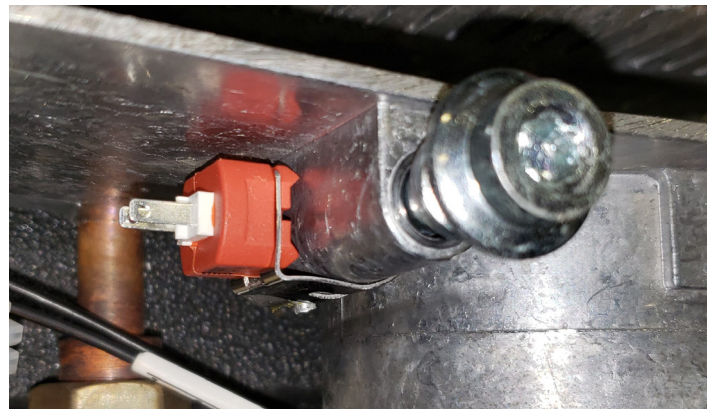

Fig. 7: New style sensor installation
4. Snap the new sensor in place as shown in Fig. 7. Lightly tug the sensor to ensure it is secure.
3. Snap the new sensor in place as shown in Fig. 7. Lightly tug the sensor to ensure it is secure.